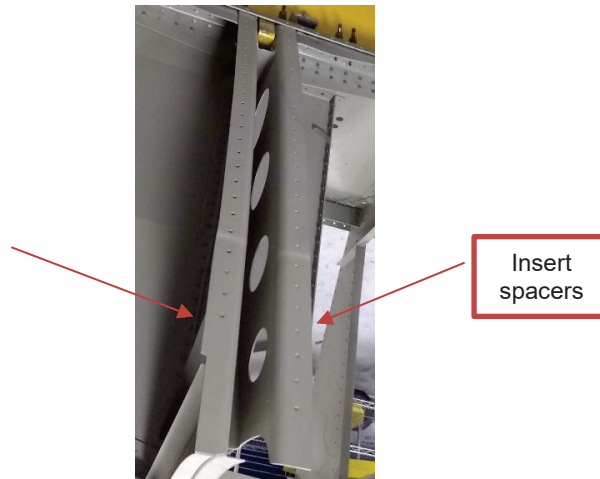

Figure 6
3. Place spacers vertically against the joggle of the bulkhead (this replaces the inside doubler). See Figure 6 for reference.